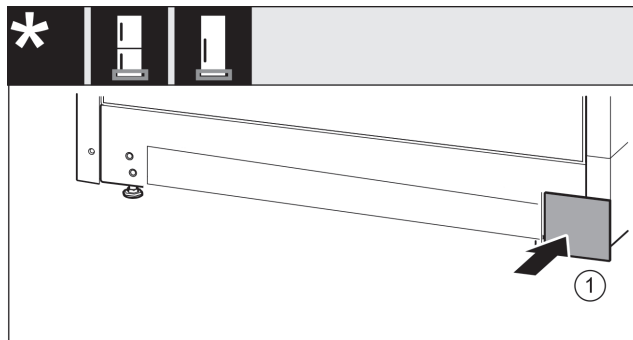

Fig. 16
- Put the cover back on the other side. *Fig. 16 (1)*